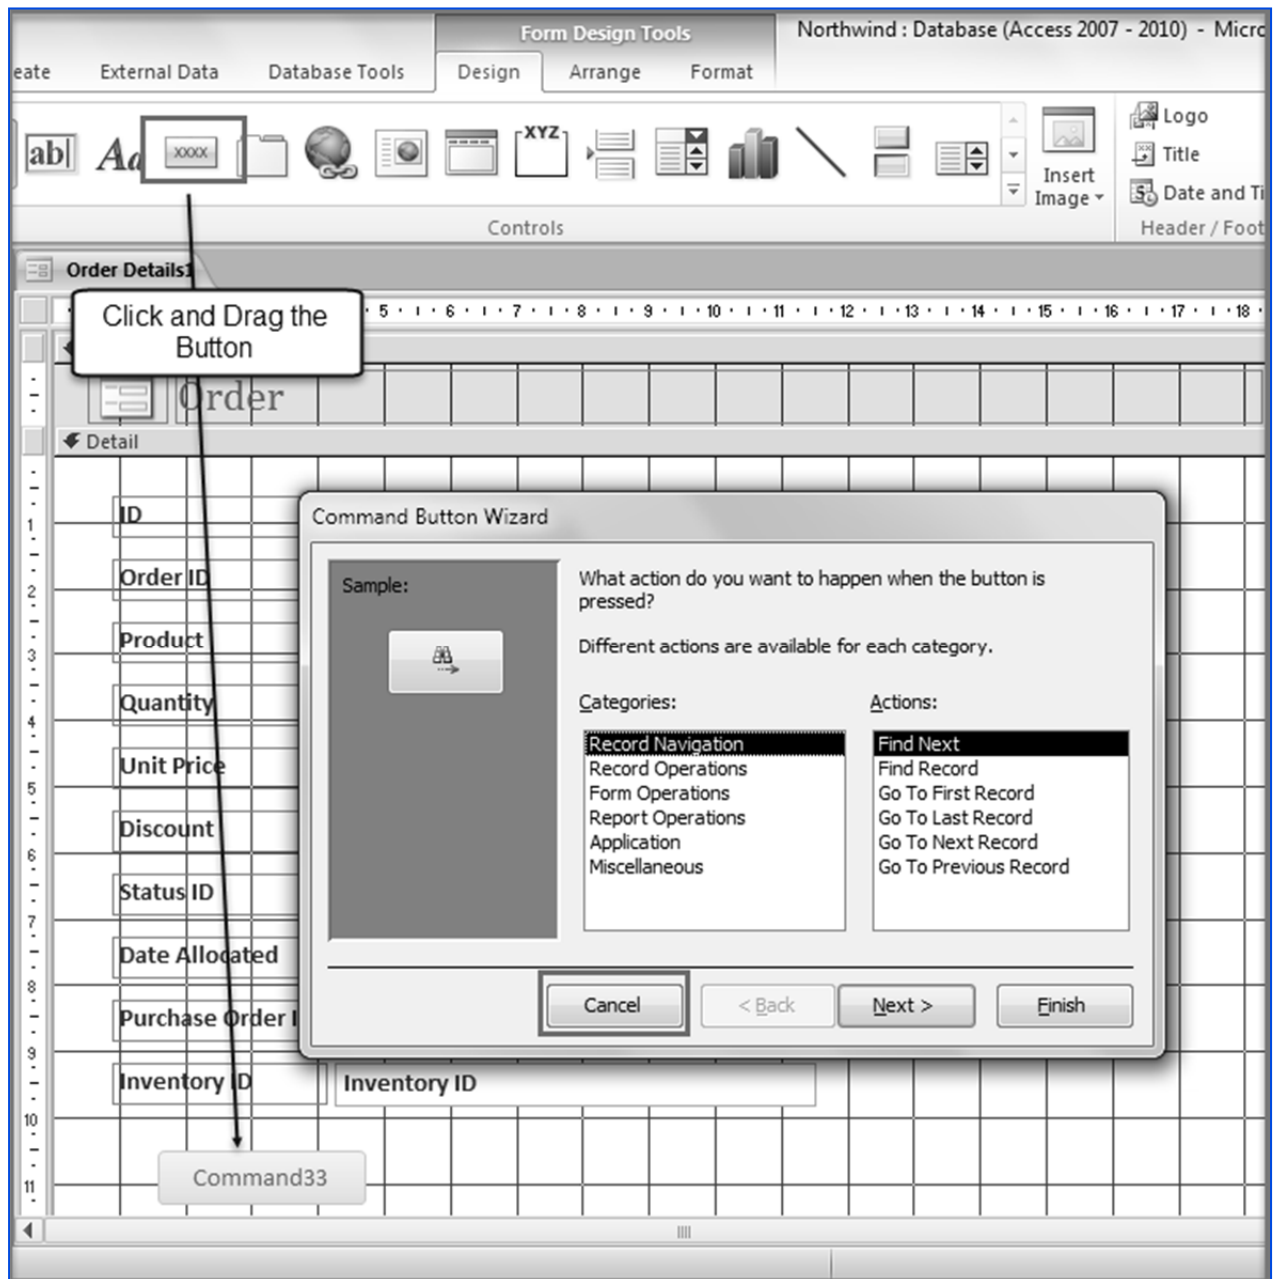

Fig. 4.2.20: Draw Command Button on Form
2. To add a button to the form, select the button from *Design -> Controls* and draw it on the form, as shown in Fig. 4.2.20. Cancel the *Command Button* wizard that appears.